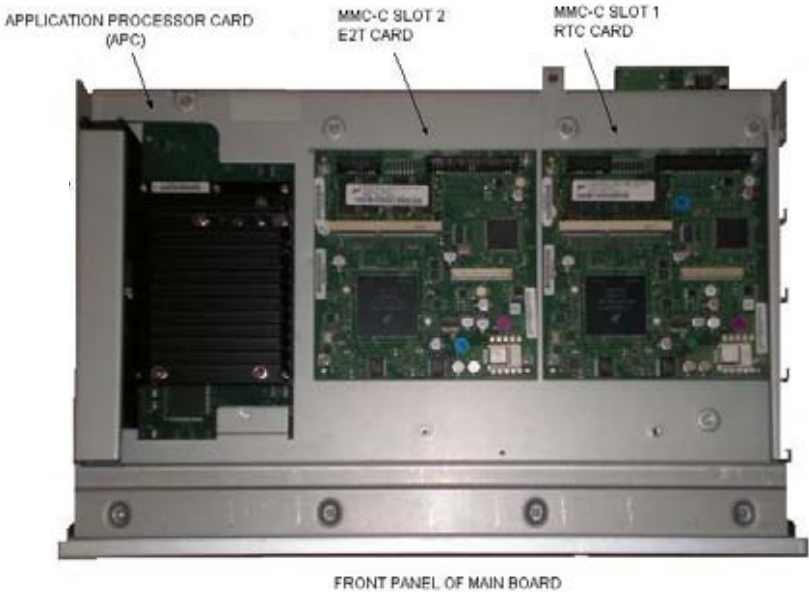

Figure 71: MXe, MXe Server: RTC / E2T/ APC on the Main Board, bottom view
3. Set the main board on a flat surface with the underside facing up. See Figure 71 on page 204.